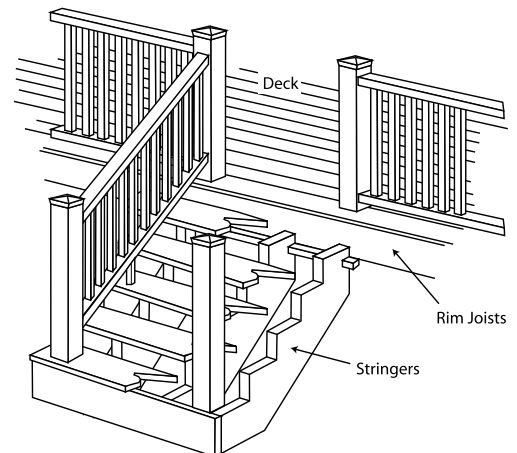

Figure 25
1. Position two line posts at top of stairway with the desired spacing and secure each post with the appropriate installation method (Figure 25).